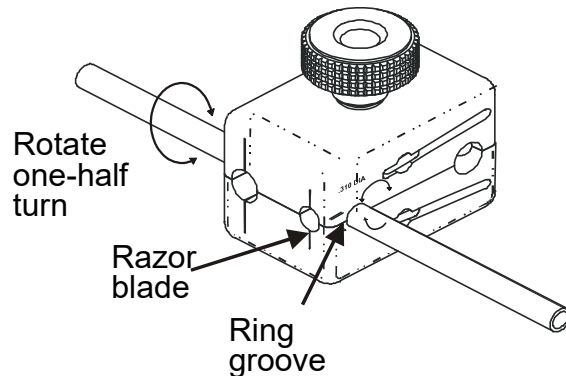

Figure 3. Ring Cut Core Tube
- 5.3 The ring-cutting groove diameters are labeled on the side of the tool (Figure 3). Place the appropriate ring-cutting groove over core tube and align the razor blades with the mark on the tube.